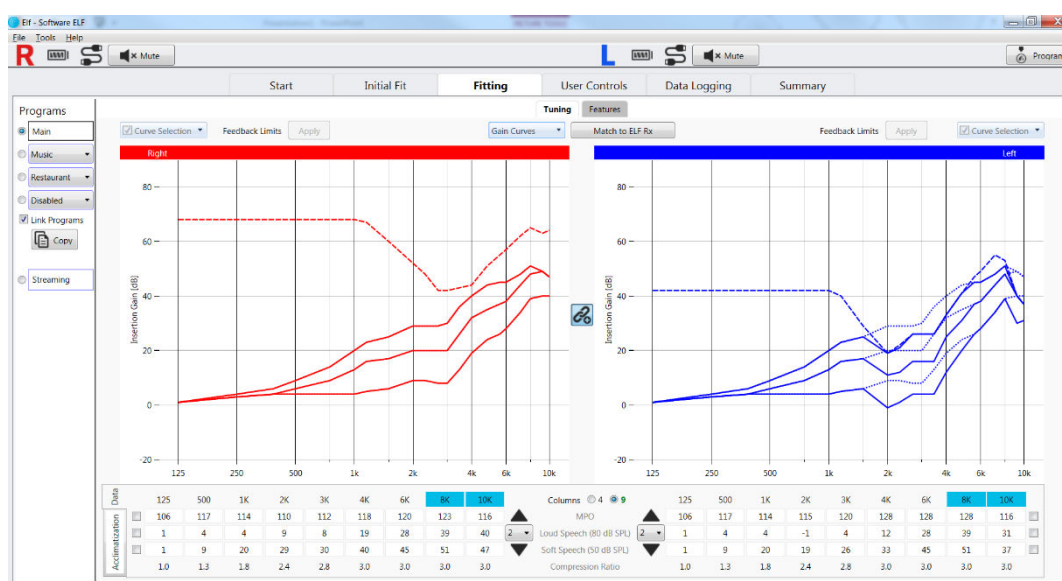

Figure 23: Fine Tuning- Gain Curves displaying maximum stable gain data and feedback limits applied for the left ear
- Following Light Calibration, a pop-up will prompt you to measure feedback. We highly recommend performing the measurement. Maximum stable gain results can be viewed in the Tuning tab, in the Fitting screen, by selecting the Gain Display option (Figure 23).